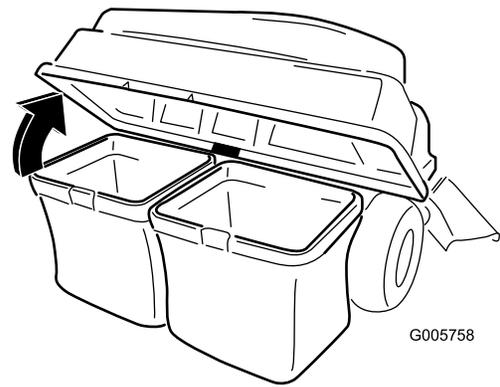

Figure 12
3. Open (raise) the bagger top (Figure 12).